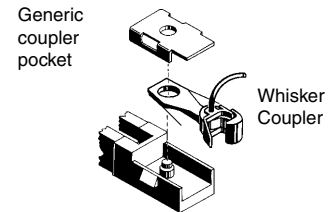

Fig.6
4. Place Centering Spring on top of Coupler and insert into Athearn coupler pocket. Secure with lid and screw or spring clip. See Fig.6 for typical installation.